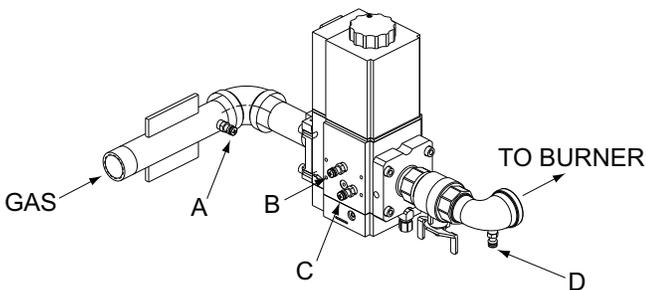

Fig. 46: Gas Pressure Measurement Locations
2. Attach (1) 12" scale manometer to an upstream bleedle valve on the gas supply pipe to the heater (Measure point "A" in Fig. 46).
3. Attach (1) 24" scale manometer to the manifold pressure tap located on the shutoff valve downstream of the firing valve (Measure point "D" in Fig. 46).
4. Attach (1) 12" scale manometer near the fan-proving switch. Pull black cap from air pressure switch tee and connect the manometer. NOTE: Retain caps for reinstallation later.